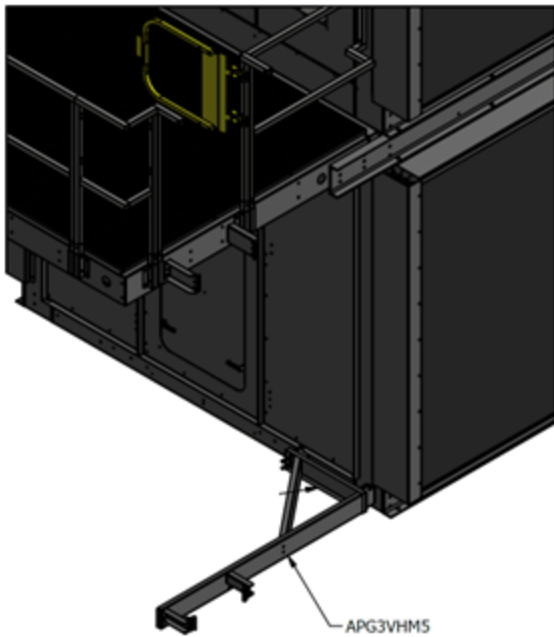
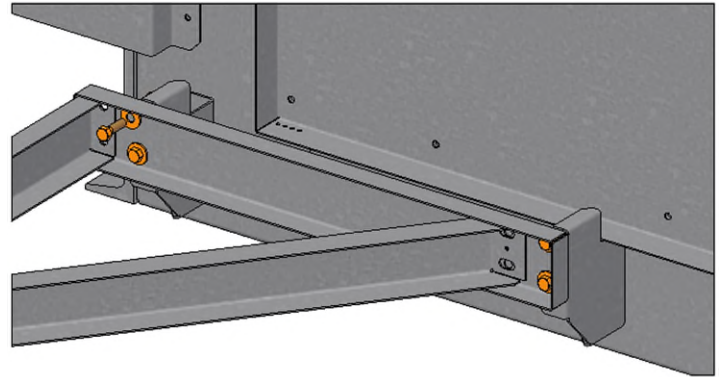

Figure 235. External Platform Bottom Ladder Support Location
Figure 246. External Platform Bottom Ladder Support Installation
1. Install the external platform bottom ladder supports per **Figure 235** and **Figure 246**.